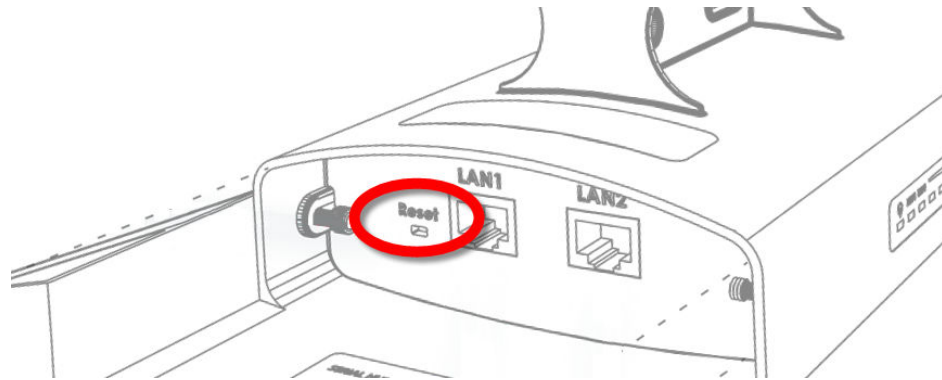

Figure 6. Cisco FM Ponte kit (Hardware RESET button port)
2. Insert a long tool with a thin shaft, such as a paper clip or a thin screwdriver, into the **RESET** button port until the tool touches the bottom (Figure 6 \(page 25\)).